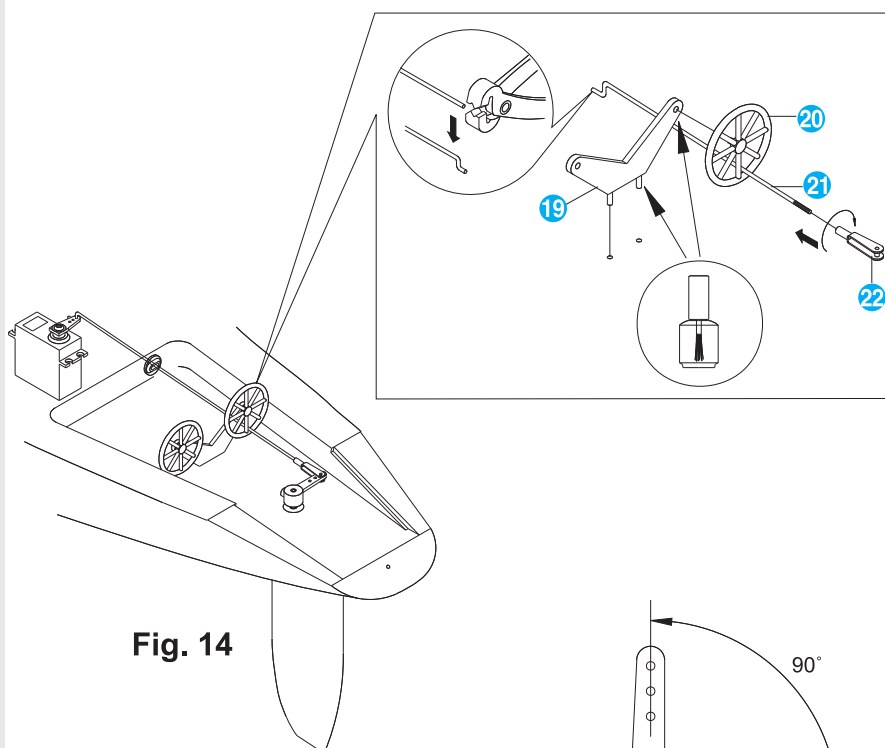
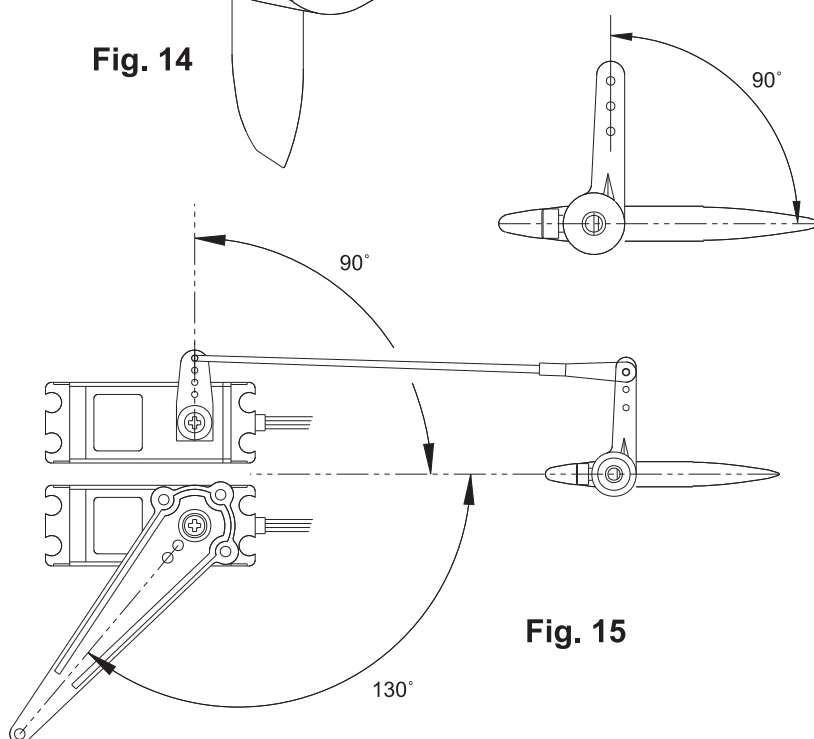

Fig. 14
Fig. 15
6. Secure the steering wheel mount to the hull using ABS glue as shown in Fig. 14. Attach the steering wheels to the mount using ABS glue.
7. Make a Z-bend on the plain (unthreaded) end of the pushrod using pliers as shown in Fig. 14. Pass the pushrod through the steering wheel and pushrod exit bushing then thread a metal clevis on the pushrod as shown. Attach the pushrod to the servo arm, and then attach the clevis to the rudder steering arm. Adjust the clevis so that the servo arm and rudder steering arm are at ninety-degree angles to the pushrod, as shown in Fig. 15.